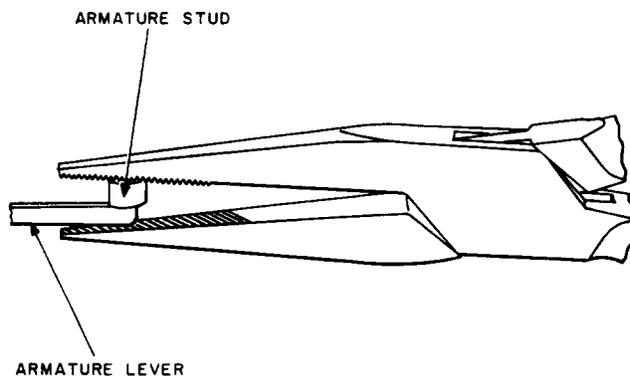

Fig. 15 — Method of Pressing Armature Stud Onto Lever Arm
- (2) Referring to Fig. 15, press the new BCO armature stud onto the lever arm, using the P long-nose pliers, just far enough to hold the stud in position. Then heat the lever arm slightly with a soldering copper ← and press the stud into place with the pliers.
- (3) Remount the BCO armature in accordance with (a) (4).